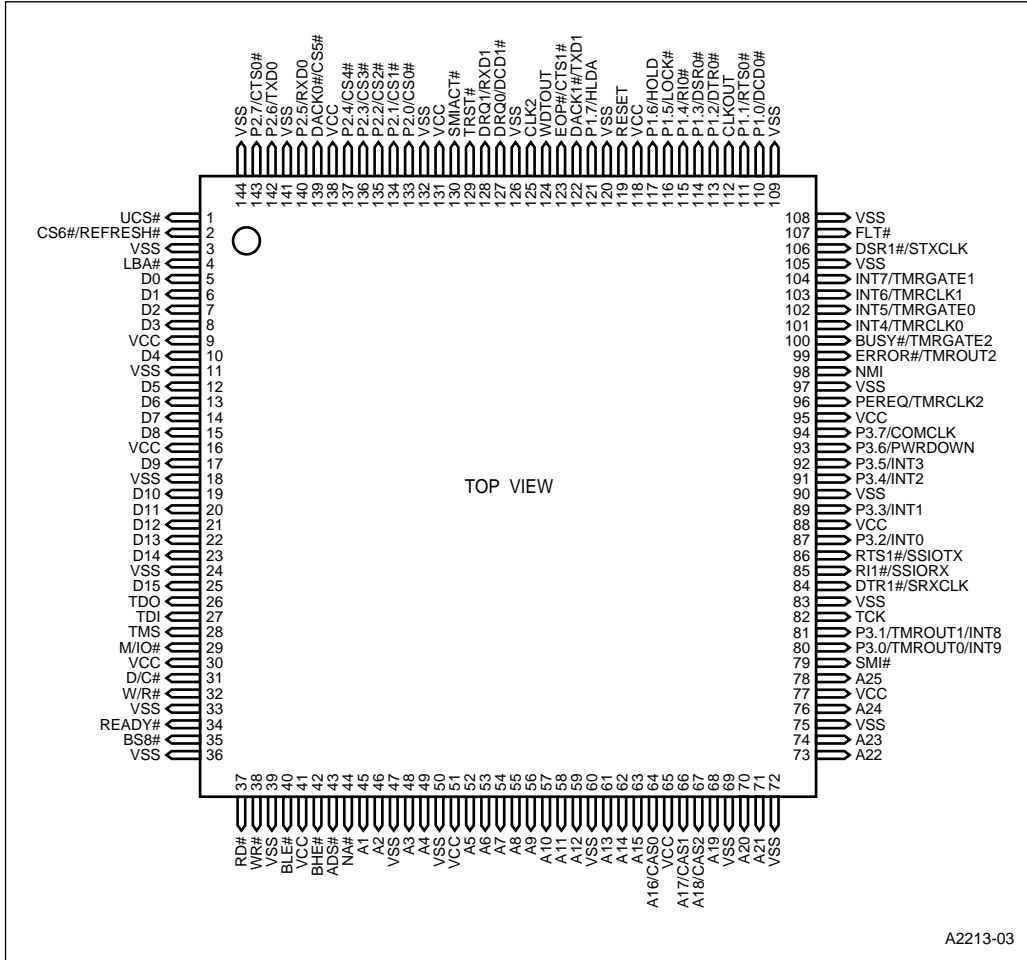

Figure 3. Intel386™ EX Embedded Processor 144-Pin TQFP Pin Assignment
- Figure 3. Intel386™ EX Embedded Processor 144-Pin TQFP Pin Assignment 4